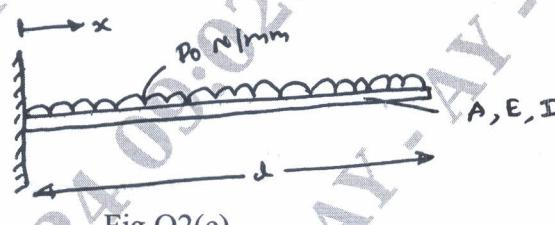

Fig Q2(c)
- c. Using Galerkin's method find the expression for displacement of cantilever beam as shown in Fig Q2(c)